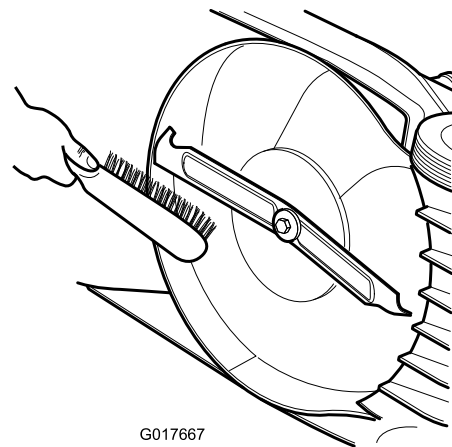

Figure 16
- Clean the underside of the mower housing. Remove dirt and grass clippings with a hardwood scraper/brush (Figure 16).